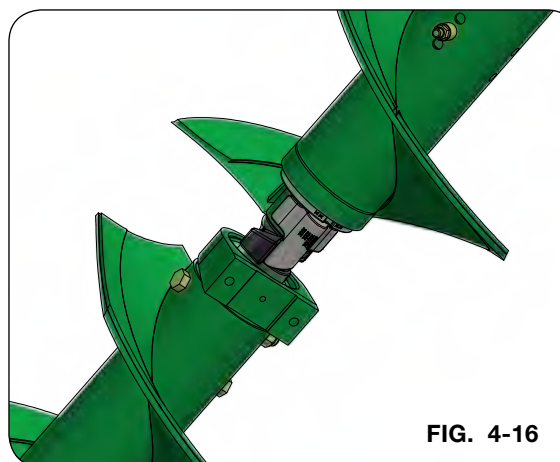

FIG. 4-16
3. When engaged, the upper flighting should follow the lower flighting. (FIG. 4-16)